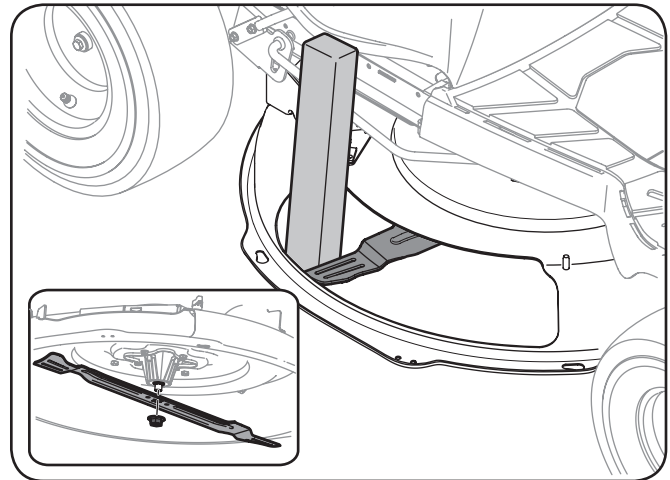

Figure 7-7
2. Using a block of wood or 2 x 4, insert it into the deck opening and rotate the blade around until it wedges the wood between the deck opening and the cutting blade, as shown in Fig. 7-7.
3. Remove the hex flange nut that secures the blade to the spindle assembly. See the Inset of Fig. 7-7.